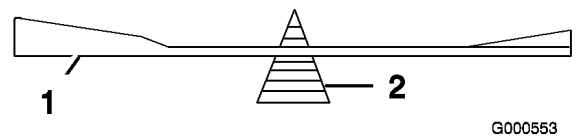

Figure 41
2. Check the balance of the blade by putting it on a blade balancer (Figure 41). If the blade stays in a horizontal position, the blade is balanced and can be used. If the blade is not balanced, repeat the sharpening procedure on the heavier side until the blade is balanced.